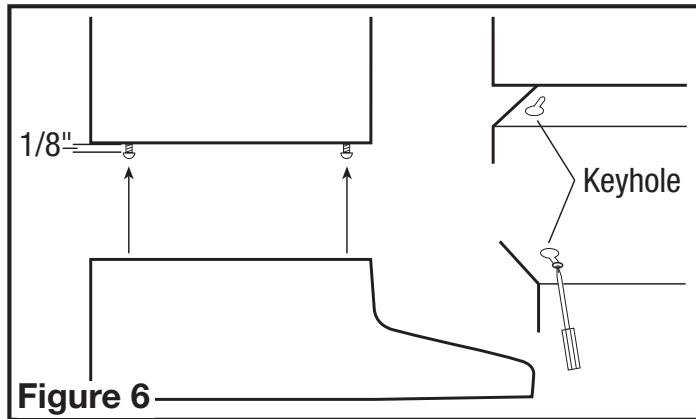

Figure 6
5. Install the 4 mounting screws at the previously marked locations. Leave approximately 1/8" clearance. Slide the hood in place through the keyhole slots and align the front of the hood so that it is flush with the front of the cabinets. Tighten all screws securely (Figure 6).